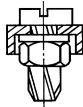

Fig 3.2.1.2.a: Pressure balance screw
- insert the supplied pressure balance screw (see figure 3.2.1.2.a).